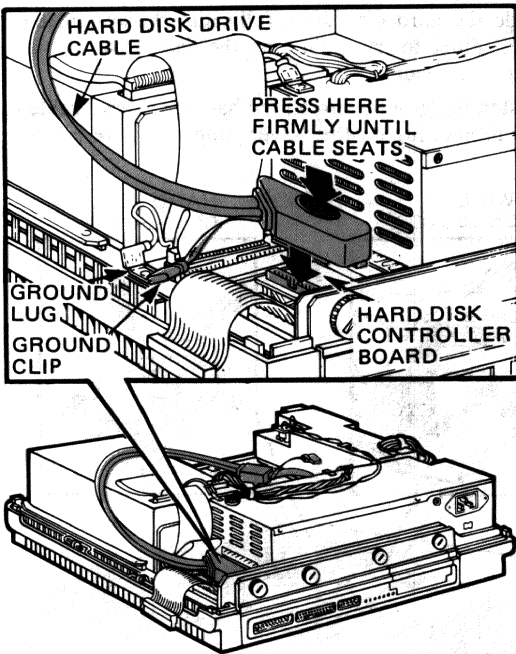

Figure 5-22 Connecting Hard Disk Drive Cable Firmly
1. Press the hard disk drive cable connector firmly as shown in Figure 5-22, until the connector seats fully and is level.